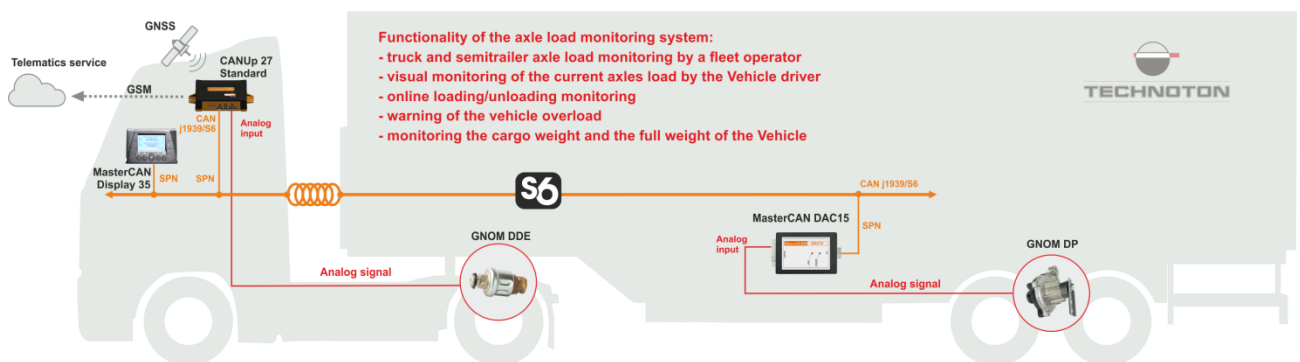

Figure 4 – Example of GNOM sensors application for monitoring axle load of a truck with a replaceable semitrailer
**3) To monitor the axles load of a road train with a replaceable semitrailer** (see figure 4).